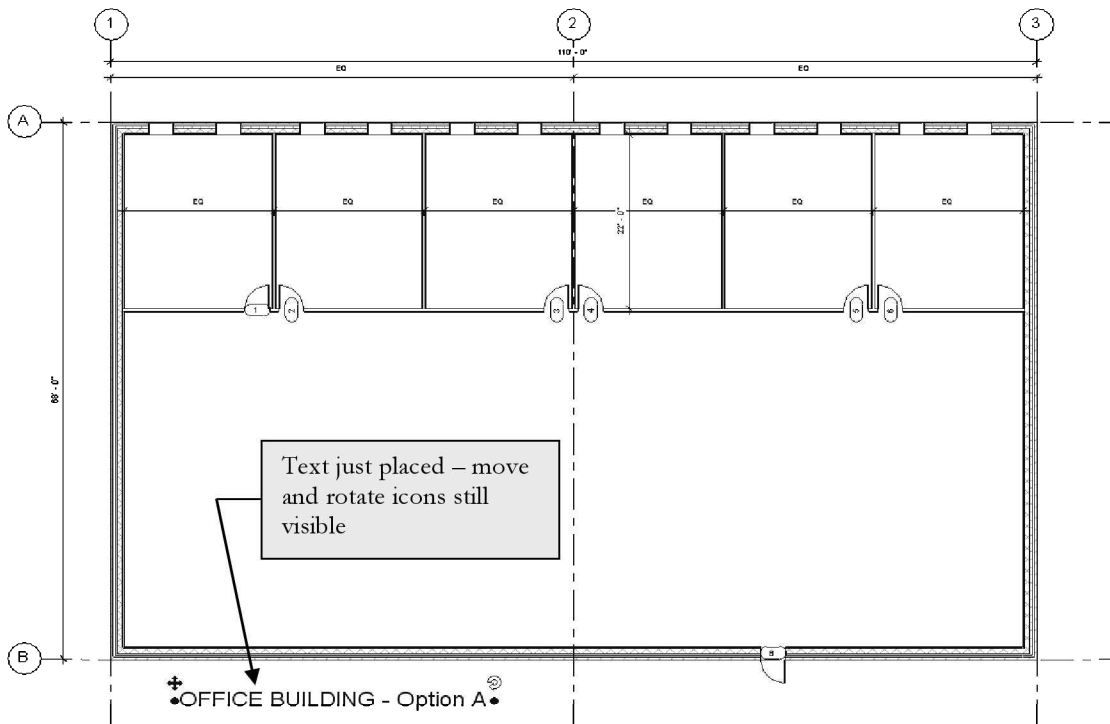

FIGURE 2-5.2 Placing text
4. Set the *Ribbon* settings to match those shown above, and **Click** below the floor plan to place the text (Figure 2-5.2).